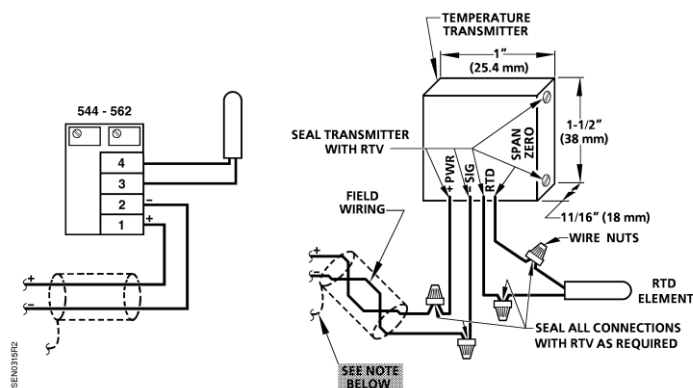

Figure 4. Wiring Connections for 4 to 20 mA Sensors.
5. Connect the field wiring to the transmitter with the positive (+) 26V supply lead to the PWR wire and negative signal lead to the SIG wire. See Figure 4 and Table 1.